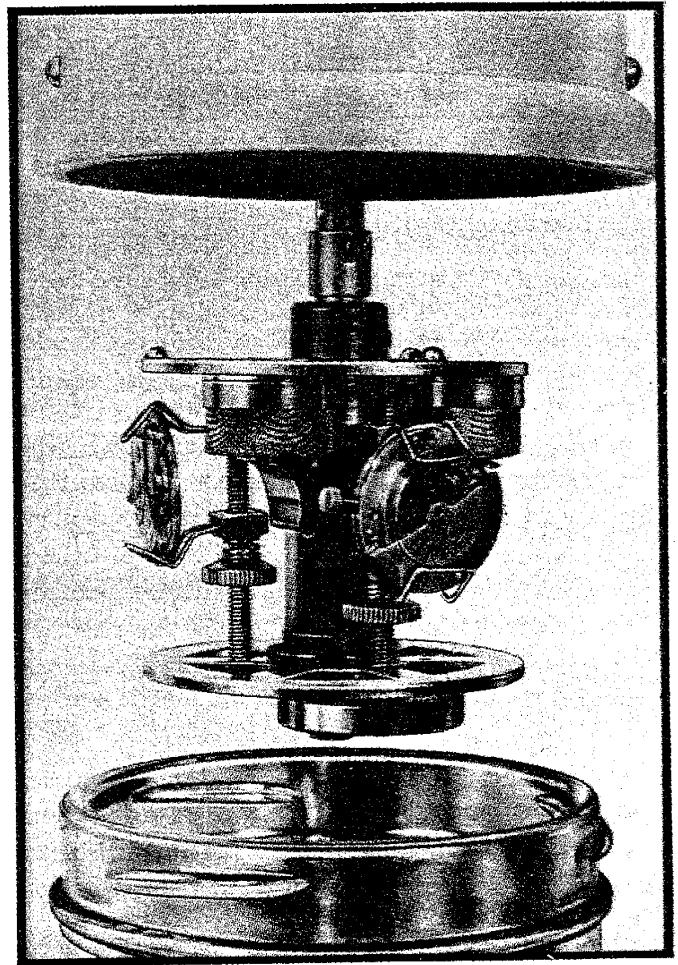
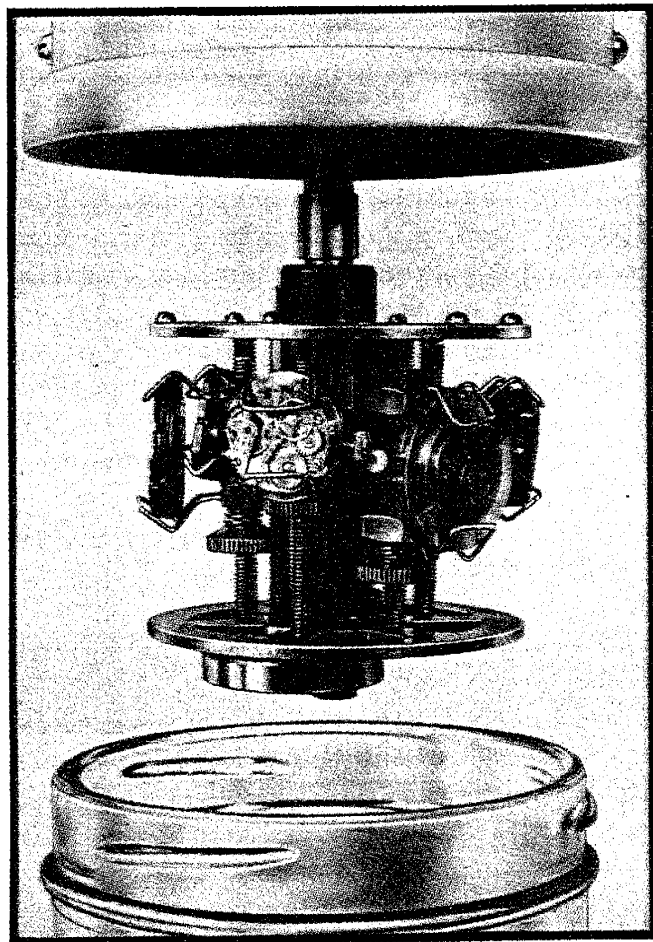

Fig. 32-7
Fig. 32-8
Figure 32-7 shows a unit with capacity for 3 wrist watches plus 3 baskets for any small parts you may have dismantled. Figure 32-8 shows a six watch unit. A different type holding device is used for very small movements.
The unit can be fitted in seconds to the motor shaft of an ordinary cleaning machine by tightening the set screws in the collar (1), Figure 32-7.